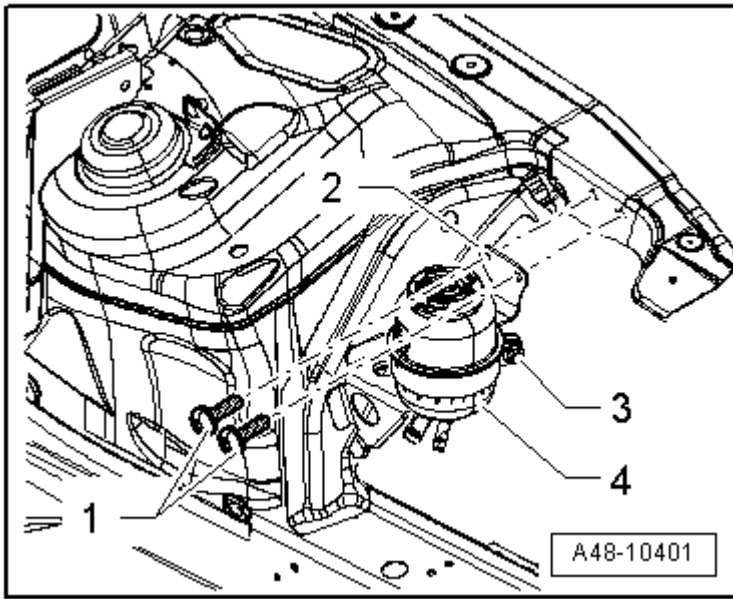

Fig. 31: Reservoir Bracket To Body
1. Reservoir bracket to body, refer to **Fig. 31**
3. Bolt in bracket, refer to **Fig. 31**